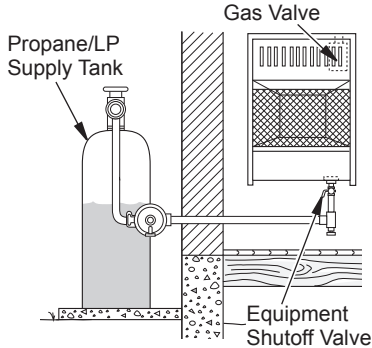

Figure 16 - Propane/LP Fuel Supply
3. Check all joints from propane/LP tank to equipment shutoff valve (see Figure 16). Apply a noncorrosive leak detection fluid to all joints. If bubbles form, there is a leak.
4. Check all joints from equipment shutoff valve to control valve (see Figure 16). Apply a noncorrosive leak detection fluid to all joints. Bubbles forming show a leak.